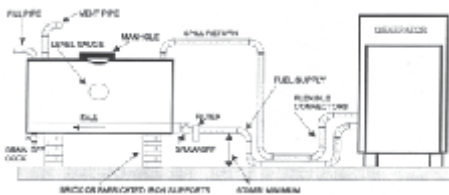

Fig. 5.1. Without Intermediate Fuel Tank
5.5. Without Intermediate Fuel Tank (Fig. 5.1.)
The simplest arrangement would be to supply the engine directly from the bulk storage tank and return the injector spill directly to this tank. A typical arrangement for this is shown in Fig. 5.1.